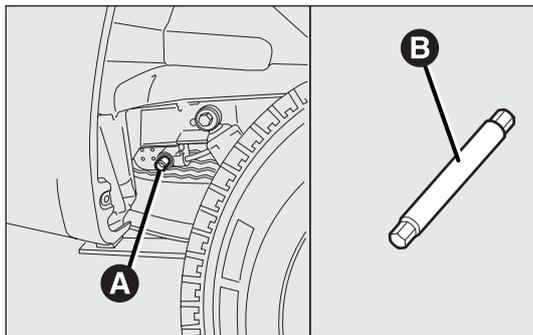
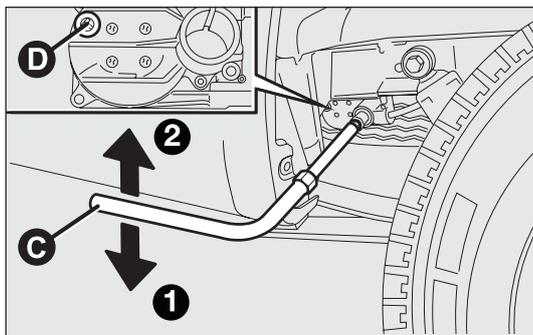

fig. 161
fig. 162
- for all versions, when gaining access through the vehicle’s rear right wheel arch, adjust the screw A-fig. 161 for the spare wheel retaining device, using the spanner provided with the extension/adaptor B;
- ❑ turn wrench C-fig. 162 anticlockwise 1 to allow the lowering of the spare wheel.
- introduce the supplied wrench C-fig. 162 with the suitable extension B-fig. 161 on the screw A-fig. 161 of the spare wheel housing manoeuvring device and turn clockwise 2 to lift the spare wheel back up until it is fully supported in its housing beneath the floor pan, checking that the attachment reference D-fig. 162 appears in the window on the device.